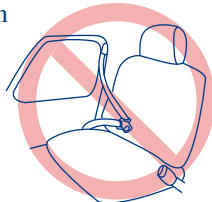

Fig. 17-1
- iii) DO NOT use a seat belt that is connected to the door in any way. These types of seat belts are designed to automatically surround the occupant when the door is closed. This type of seat belt will NOT adequately restrain the Safety Seat. (Fig. 17-1).